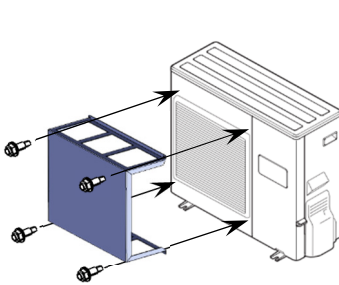

Figure 1
- (1) Center the wind baffle both vertically and horizontally over the fan cover as shown in Figure 1. Make sure that the wind baffle does not cover the service panel.
- (2) Mark the screw hole positions in each flange by drilling.
- (3) Using the self-tapping screw provided, locate and secure the wind baffle as shown in Figure 1.